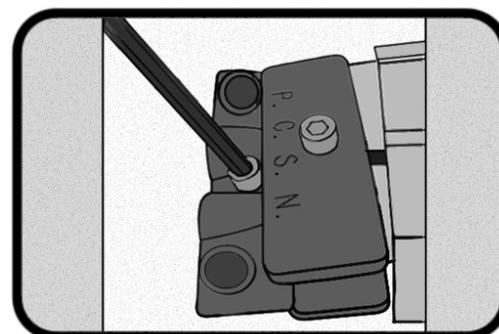

Fig. 3
**Step 3:** Use a 1/8" Allen Wrench to release the Cover Guide from the Track end. Do not remove the Screw. This will free the Guide to slide back and forth when it has been released from the Track end. **(Fig. 3)** NOTE: If your Pool Cover uses a plastic Slider, this step is unnecessary, as the Slider can be moved along the ropes without being loosened.